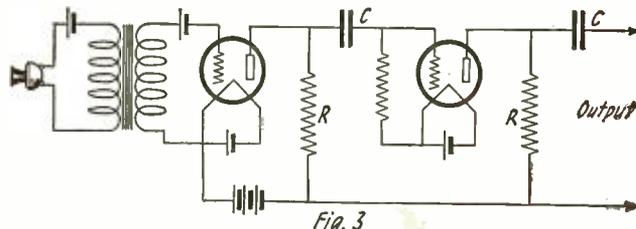

Fig. 3
Fig. 3 shows the operation of a transformer having a step-up ratio of 1:2, operating on 100 volts, as in Fig 2, and loaded so as to draw the same power. It will be noticed that the secondary voltage is doubled (200 volts), and the secondary current is reduced from two to one ampere, maintaining the power relations correctly. The secondary load resistance, to satisfy this condition, is obviously 200 ohms, or four times the original value of Fig. 2.
rents are the same. In fact, these circuits operate exactly like a simple resistance circuit of 50 ohms. The "equivalent" resistance of each circuit referred to the primary is, therefore, 50 ohms. However, the load resistance (secondary) in Fig. 2 is 50 ohms, while that of Fig. 3 is 200 ohms. Fig. 2 shows a transformation ratio of 1:1, while Fig. 3 shows a ratio of 1:2. It is apparent, therefore, that by the change in transformation ratio, we have reduced 200 ohms to what appears to be 50 ohms. If the transformation ratio had been 1:4, the situation would have been as shown in Fig. 4, where a load resistance of 800 ohms is reduced to 50 ohms in the primary circuit.
For example, in Fig. 3; the secondary resistance is 200 ohms, the equivalent resistance referred to the primary circuit is 50 ohms. The ratio is four, which is equal to the square of the voltage ratio (2). Hence, the equivalent value for any secondary resistance referred to the primary circuit is equal to the actual secondary resistance, multiplied by